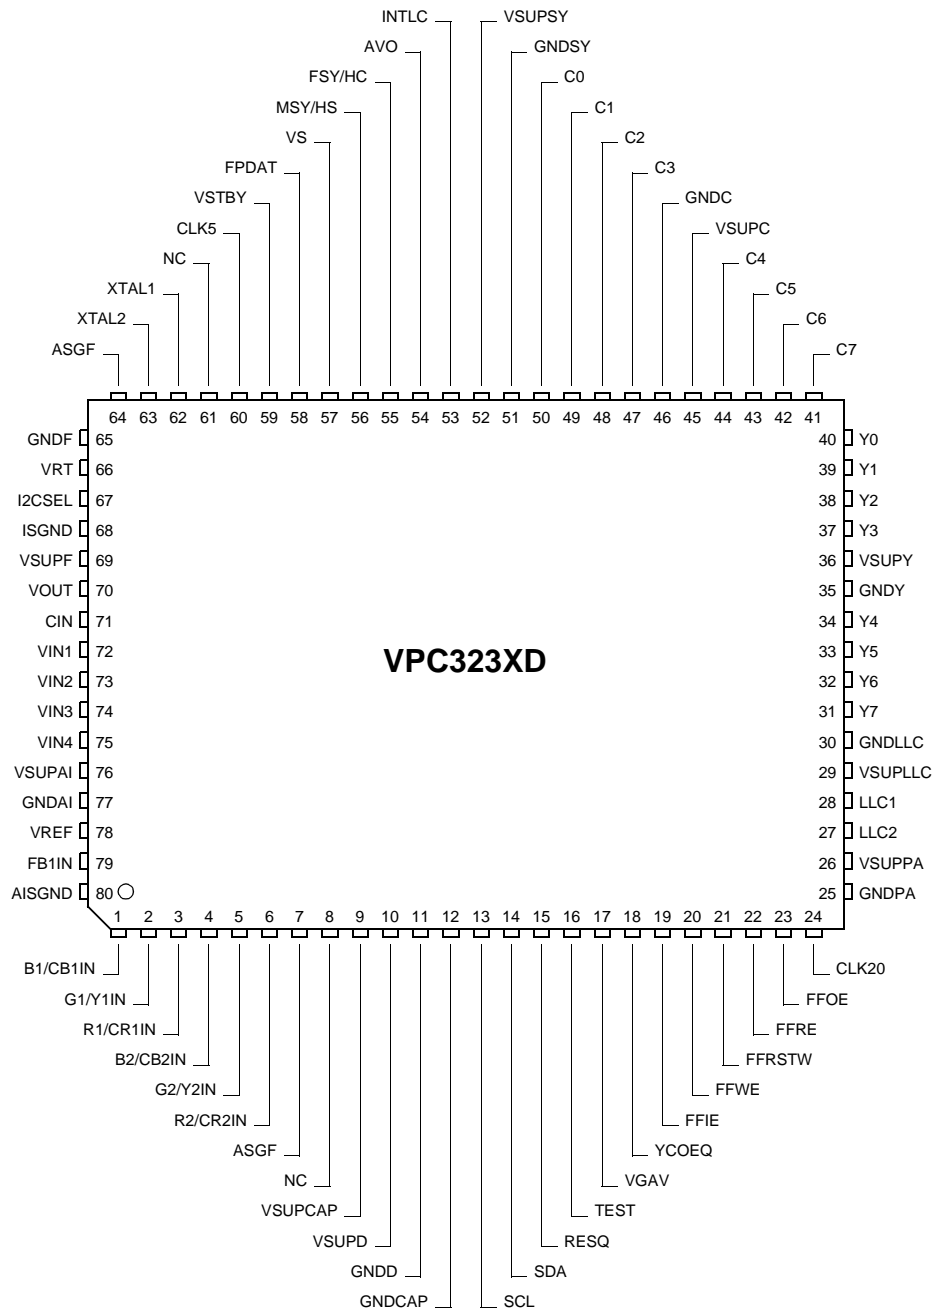

Fig. 4–2: 80-pin PQFP package
Pin 53 – Interlace Output, INTLC (Fig. 4–4)
Pin 54 – Active Video Output, AVO (Fig. 4–4)
Pin 55 – Front Sync/Horizontal Clamp Pulse, FSY/HC (Fig. 4–4)
Pin 56 – Main Sync/Horizontal Sync Pulse MSY/HS (Fig. 4–4)
Pin 57 – Vertical Sync Pulse, VS (Fig. 4–4)
Pin 58 – Front-End/Back-End Data FPDAT (Fig. 4–5)
Pin 60 – CCU 5 MHz Clock Output CLK5 (Fig. 4–10)
Pins 62 and 63 – XTAL1 Crystal Input and XTAL2 Crystal Output (Fig. 4–7)
Pin 66 – Reference Voltage Top VRT (Fig. 4–8)
Pin 68 – Signal GND for Analog Input ISGND (Fig. 4–10) This is the high quality ground reference for the video input signals.
Pin 69 – Supply Voltage, Analog Front-End  $V_{\text{SUPF}}$  (Fig. 4–8)
Pin 70 – Analog Video Output, VOUT (Fig. 4–6)
Pin 71 – Chroma Input CIN (Fig. 4–9)
**Pins 72-75 – Video Input 1–4 (Fig. 4–11)**
**Pin 78 – Reference Voltage Top VREF (Fig. 4–8)**
**Pin 79 – Fast Blank Input FB1IN (Fig. 4–10)**
**Pin 80 – Signal GND for Analog Component Inputs AISGND (Fig. 4–10)**